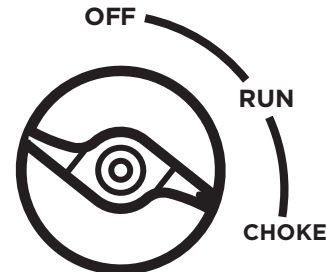

Figure 7: Turn Engine/Fuel Switch to CHOKE Position
2. Turn the engine/fuel control switch to the **CHOKE** position (see *Figure 7*).